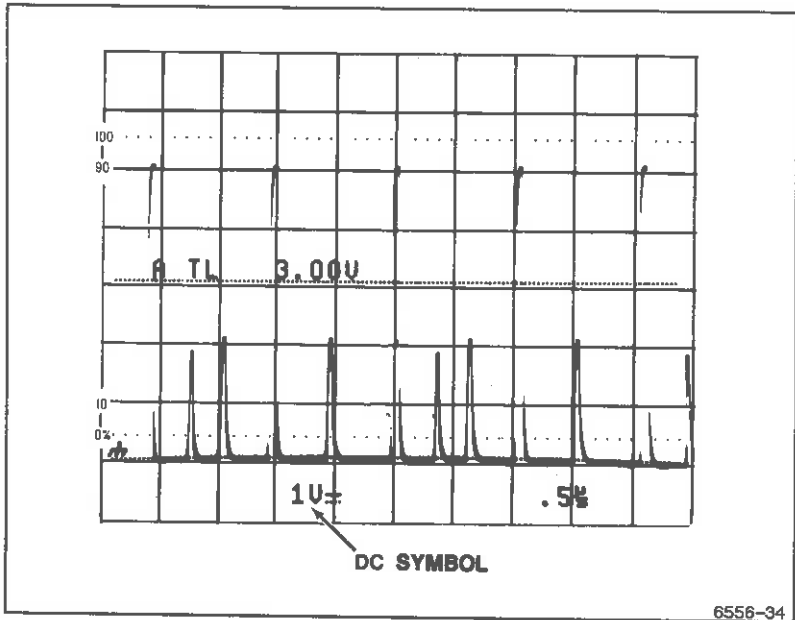

Figure 5-8. Setting a specific trigger level.
- The signal to be examined is a mix of two different signal levels (see Figure 5-8).
Set the VOLTS/DIV control so that the displayed signal will have a good viewing amplitude. For the assumed signal shown in Figure 5-8, a setting of 1 V/div will produce a four to five division display amplitude. Position the ground cursor (using the VERTICAL POSITION control) at about three graticule divisions below the center graticule line. (For negative-going signals, two divisions above the center graticule would about center the display; and for bipolar signals, centering the ground trace is appropriate.)